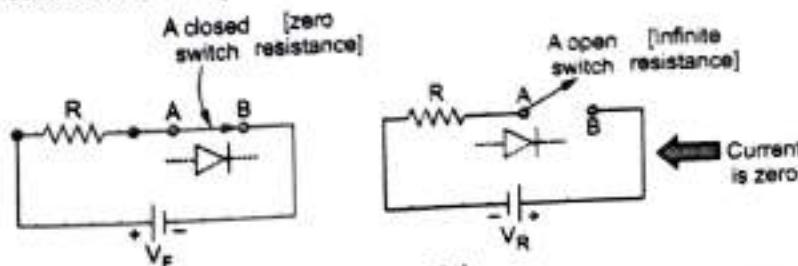

Fig. Q.23.1
**Ans. :** In forward biased condition, the forward resistance of a diode is very small and ideally it can be treated to be zero. Thus ideally forward biased diode acts as a zero resistance device which is a **closed switch**. Hence ideal model of a diode in forward biased condition is a closed switch as shown in the Fig. Q.23.1.
In reverse biased condition, the reverse resistance is very very large and it can be treated to be infinite. Thus ideally the reverse biased diode can be treated as infinite resistance device which does not allow the flow of current. Such a device is nothing but an **open switch**. Hence ideal model of a diode in reverse biased condition is an open switch as shown in the Fig. Q.23.1.